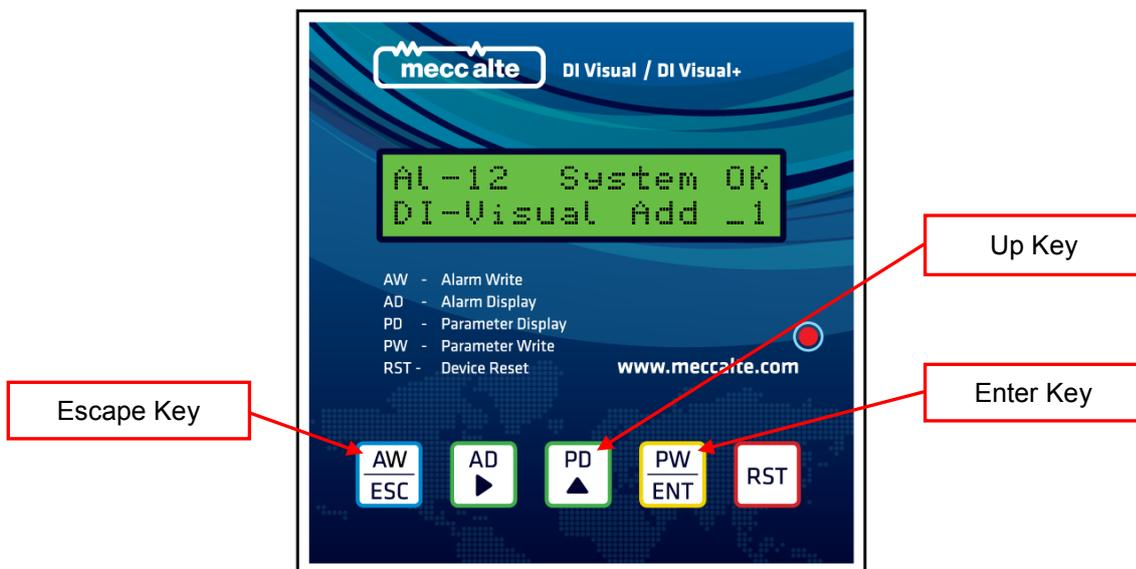

fig. 3
For setting the address of DSR in DI-Visual+, after Power On or Resetting DI-Visual+ device using **RST** key and keep the **PW/ENT** key pressed to prompt for the address stored in DI-Visual+ device as shown in Fig. 3.
- 1) To change the address press **AD** or **PD** key as shown in Fig. 3. Once you reach to desired address press **PW/ENT** key to update the change in address.